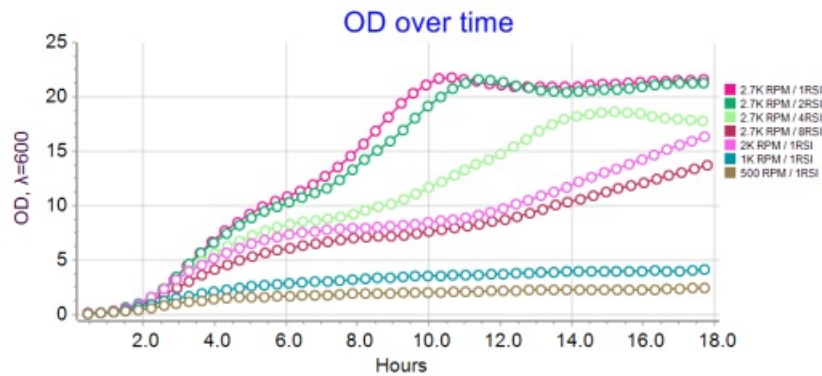
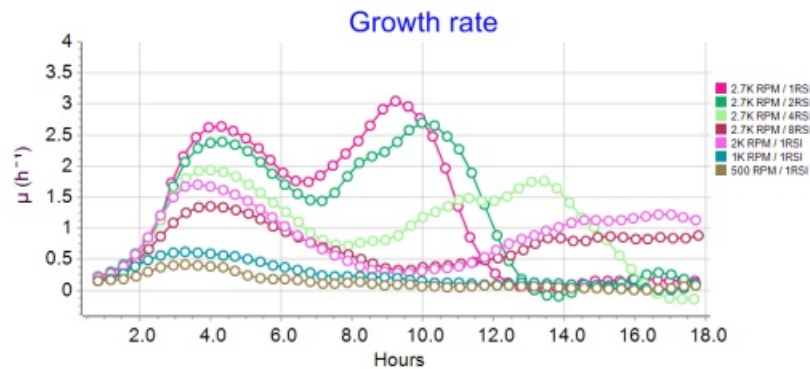

Figure 5. Influence of Interval of Reverse Spinning and RPM on the Growth kinetics ($\Delta OD_{\lambda=600nm}/\Delta t$) vs Time of fermentation (h).
Figure 6. Influence of Interval of Reverse Spinning and RPM on the Growth kinetics ($\Delta OD_{\lambda=600nm}/\Delta t$) vs Time of fermentation (h).
It is known that aeration affects the growth and growth rate of aerobic microorganisms. The RSI and RPM affect the rate of oxygen uptake in the bioreactor. Results obtained in fig. 5 and fig. 6 indicate that the maximum rate of cell division is detected at RSI of 1 s^{-1} at a speed of 2700 rpm. The increase of pause between reverse spins reduces cell growth rate and OD yield, reaching ~44% of the maximum value (RSI 1 s^{-1}), when RSI is 8 s^{-1} .
- Legend of experiment (fig. 5.): Multi-channel bioreactor RTS-8 plus was used with 850 nm laser, volume of Terrific Broth (TB) in 50 ml Falcon tube was 10 ml, RSI 1, 2, 4, 8 s^{-1} , MI 10 min, RPM 2000, temperature 37°C , TPP Bioreactor vessels.